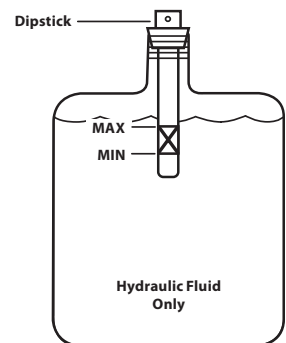

Figure 11
9. Refill the reservoir within range marked on the dipstick. See Figure 11.